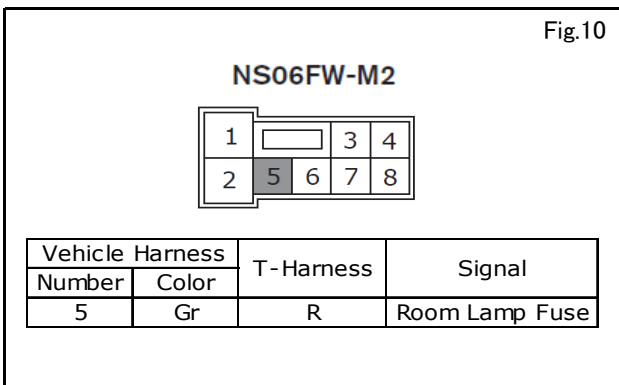

Fig.10
- 3) Tap T-Harness to vehicle harness with Posi Tap at position shown in fig.10.